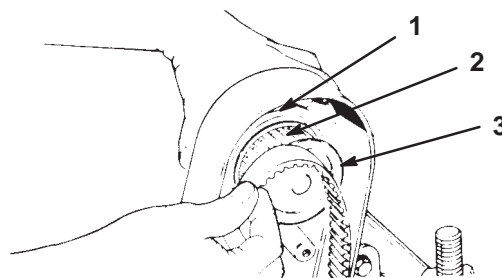

Figure 11
Note: Check to see that motor pulley set screws are tight on motor shaft before installing motor onto cutting unit (Fig. 11).
3. Insert the reel drive motor pulley through the housing and slip the cutting unit drive belt over the pulley (Fig. 11).